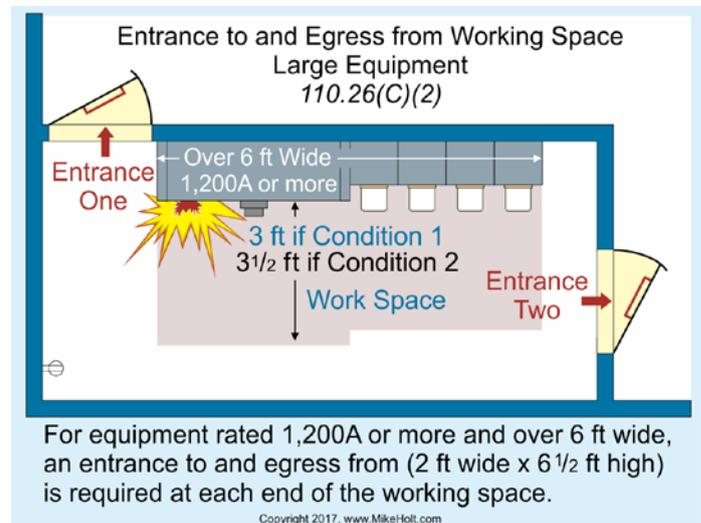

Figure 110-39
**(2) Large Equipment.** An entrance to and egress from each end of the working space of electrical equipment rated 1,200A or more that's over 6 ft wide is required. The opening must be a minimum of 24 in. wide and 6½ ft high. Figure 110-39